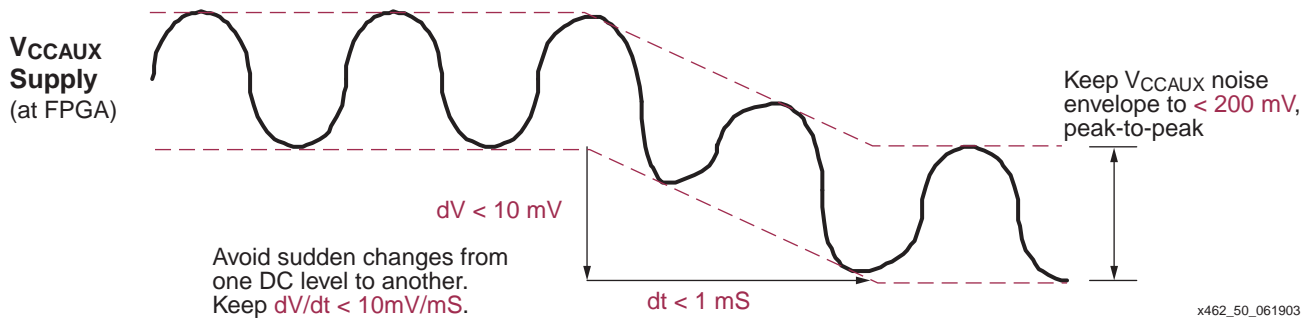

Figure 3-50: Recommended V_{CCAUX} Supply Considerations Avoid Voltage Droop
1. Limit changes on the V_{CCAUX} power supply or ground potentials to less than 10 mV total or 10 mV in any 1 ms interval, as shown in Figure 3-50. This recommendation allows the DCM to properly track out the change.
- Limit the noise at the power supply to be within 200 mV peak-to-peak, as shown in Figure 3-50.